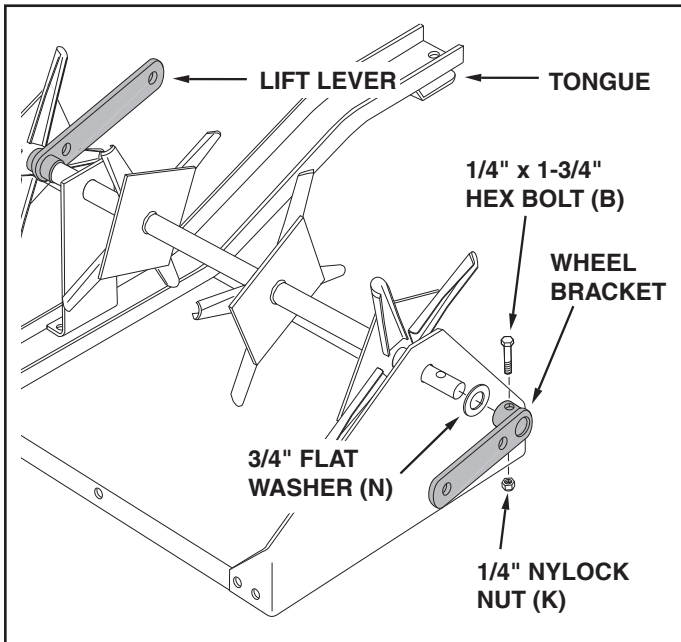

FIGURE 8 UPSIDE DOWN VIEW
11. Standing behind the tray, place the **long end** of the shaft through the end plate on your right as shown in figure 8. Place the other end of the shaft through the end plate on your left. Make sure the bent end of the middle brace rests flat inside the tongue.
12. Assemble a 3/4" flat washer (N) and a wheel bracket onto each end of the shaft. Turn each wheel bracket to point in the opposite direction from the lift lever. Secure each wheel bracket with a 1/4" x 1-3/4" hex bolt (B) and 1/4" nylock nut (K). **Tighten.** See figure 8.